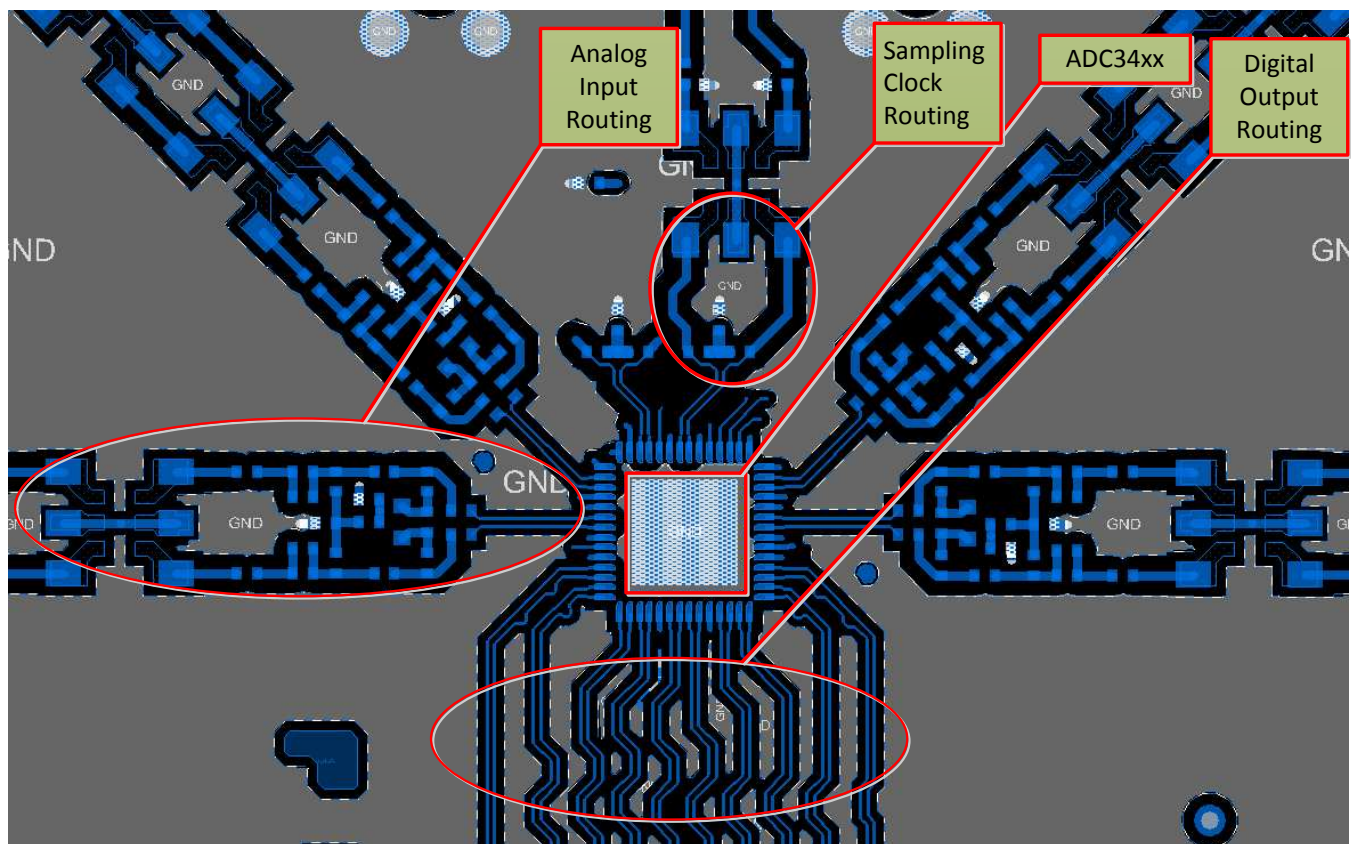

Figure 203. Typical Layout of the ADC344x Board
The ADC344x EVM layout may be used as a reference layout to obtain the best performance. A layout diagram of the EVM top layer is provided in Figure 203. Some important points to remember during laying out the board are:
1. Analog inputs are located on opposite sides of the device pin out to ensure minimum crosstalk on the package level. To minimize crosstalk onboard, the analog inputs must exit the pin out in opposite directions, as shown in the reference layout of Figure 203 as much as possible.
2. In the device pin out, the sampling clock is located on a side perpendicular to the analog inputs in order to minimize coupling between them. This configuration is also maintained on the reference layout of Figure 203 as much as possible.